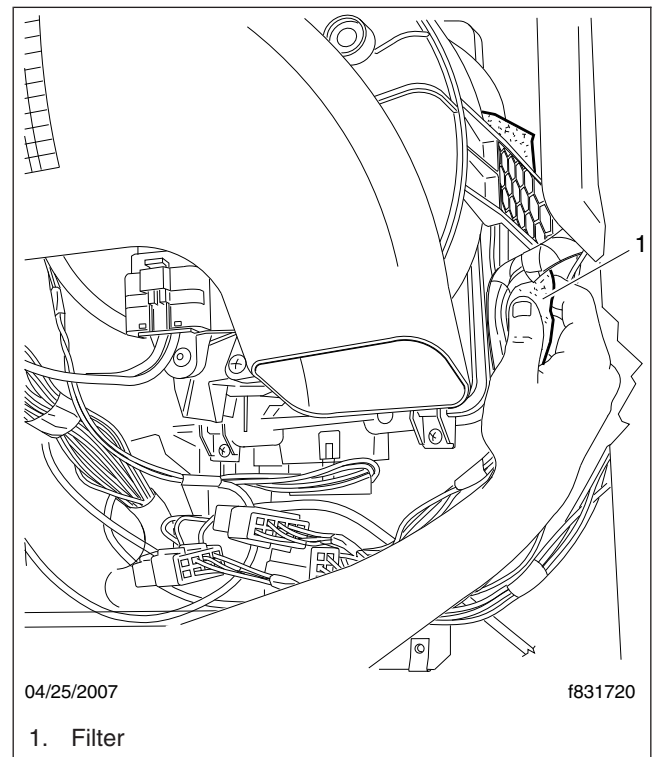

Fig. 7, Removing the Cab Filter
4. Remove the filter from the intake recess in the back of the plenum. Pull it loose along the bottom edge of the recess, and slide it straight down. See Fig. 7.